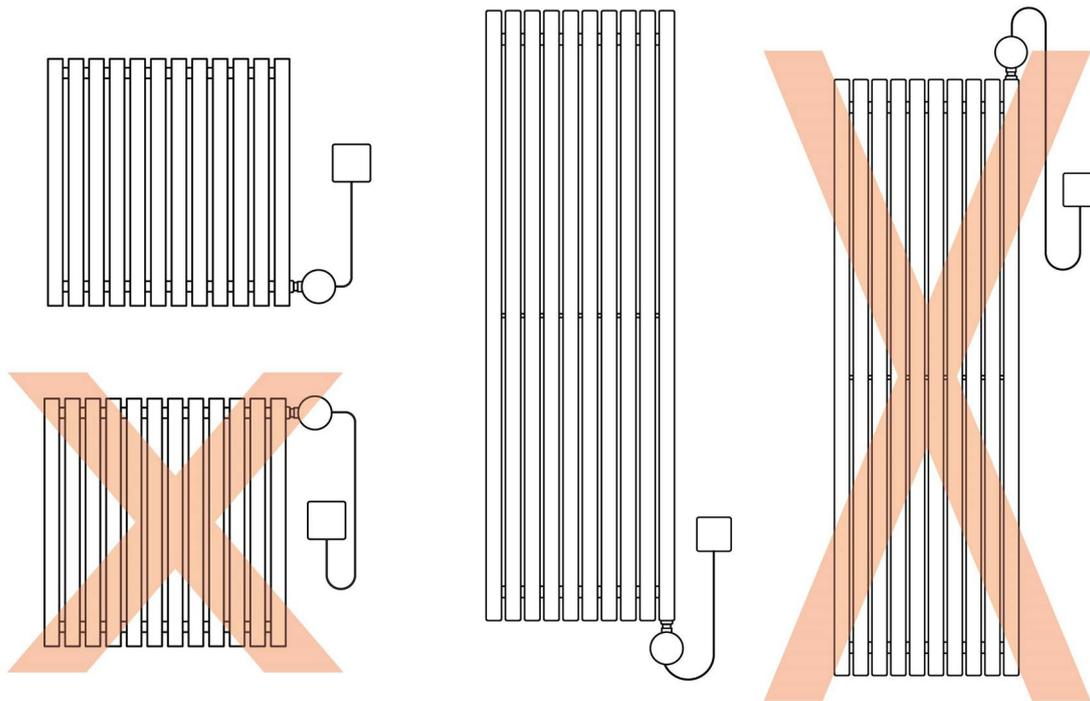

Figure 1 | Correct and incorrect element positioning
- Do not hang the radiator with the heating element at the top (**Figure 1**).
- The power lead must be connected to a socket which must be at least 25cm from the floor. Do not connect the element to the power supply until it is secured within the radiator and correctly orientated, as demonstrated in **Figure 1**.